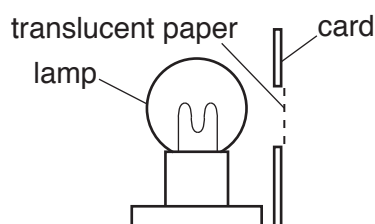

Fig. 3.1
- (ii) Illuminated object with a triangular hole of height 1.5 cm to 2.0 cm (see Figs. 3.1 and 3.2). The hole is to be covered with thin translucent paper (e.g. tracing paper). See notes 1 and 2.